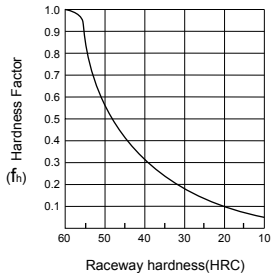

Fig 1.3.2 Hardness Factor (f_h)
f_h : Hardness factor (Fig1.3.2)
- C : basic dynamic-load rating (N)
- P_c : calculated load (N)
- f_h : hardness factor (Fig 1.3.2)